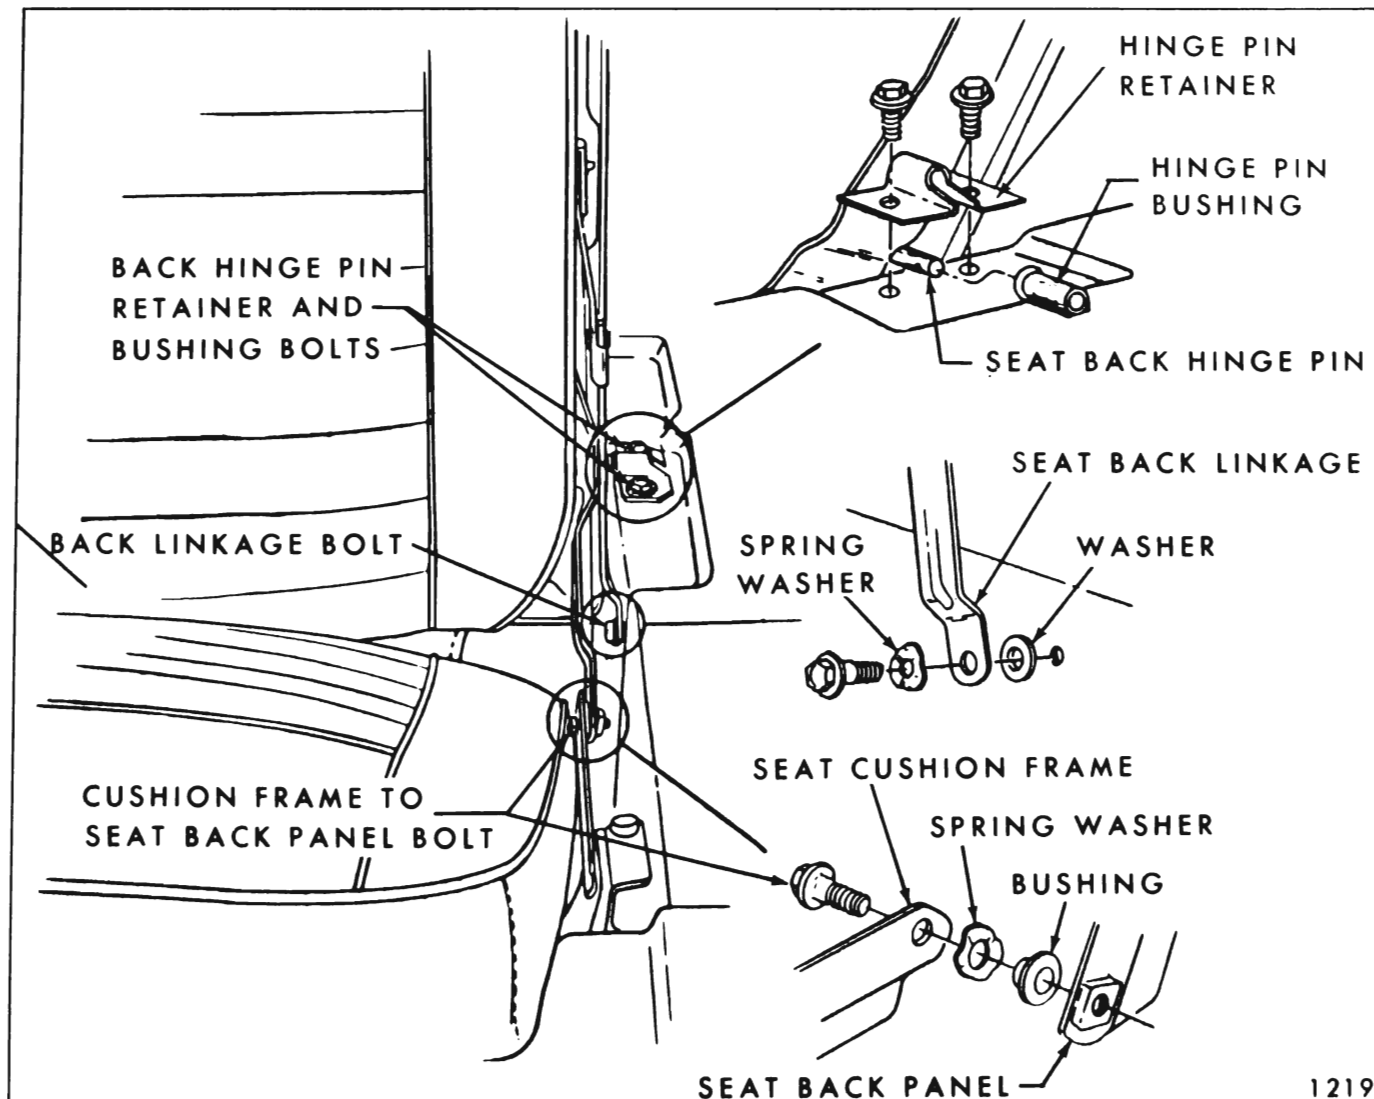

Fig. 15-76—Folding Third Seat
2. Remove seat back linkage-to-compartment side pan attaching bolt (Fig. 15-76) at both right and left sides of seat.
3. At left side of seat remove seat back hinge pin retainer (Fig. 15-76).
5. To install folding third seat and floor panel assembly, reverse removal procedure. Make sure a seat back hinge pin bushing is installed over both hinge pins. Also install flat washer between seat back linkage and compartment side pan and spring washer between linkage and bolt head (Fig. 15-76).
3. Remove seat cushion frame-to-seat back panel attaching bolt (Fig. 15-76) from both sides of seat; then, remove seat cushion assembly and place on a clean surface.
5. To install, reverse removal procedure. When installing seat cushion frame-to-seat back frame attaching bolts install bolt bushing and spring washer, as shown in insert of Figure 15-76.
4. To remove seat back panel assembly, remove seat cushion frame-to-seat back panel attaching bolt (Fig. 15-76); then, remove seat back panel with attached rear floor filler (at kick-up) panel from seat cushion.
5. To install, reverse removal procedure. Refer to inserts in Figure 15-76 for correct instal-